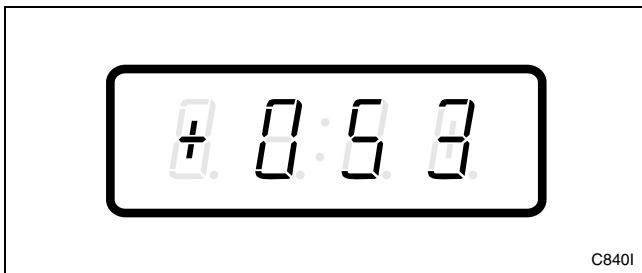

Figure 192
3. Press the DELICATES (+) or the COLD (-) keypad to scroll through the programmable options until “+053” appears in the VFD. Refer to *Figure 192*.